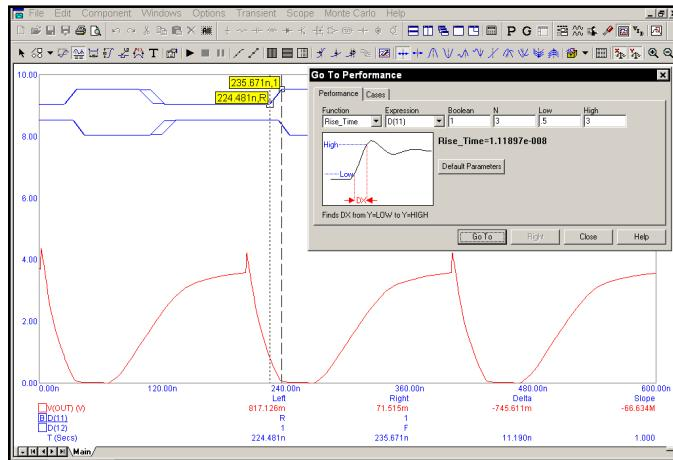

Figure 7-24 Measuring digital rise times
Performance functions also work on digital curves. Select D(11) from the Expression list and Rise_Time from the Function list. Set N=3 and click the Go To button. The result looks like Figure 7-24. Click Close.